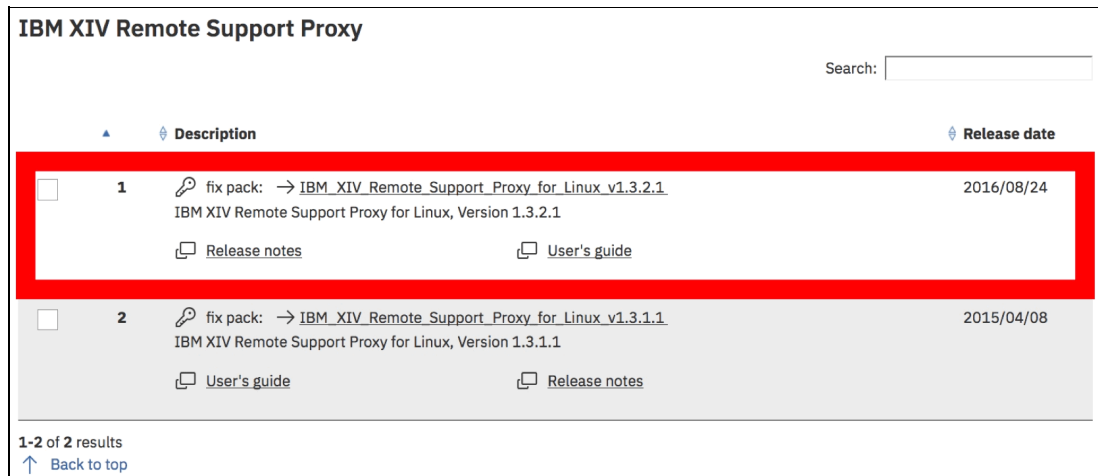

Figure 4-16 Select the Latest Proxy Server package
3. Always use the latest Proxy Server because it references the latest secure front end servers at IBM, as shown in Figure 4-16 on page 97.